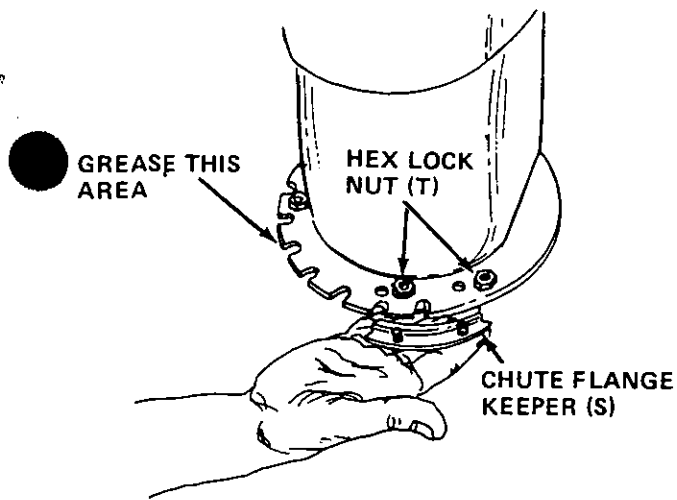

FIGURE 8
15. Grease the flange at chute opening of blower housing using all purpose automotive grease. See figure 8.
16. Place the chute assembly over the chute opening using flange keepers (S) and hex center lock nuts (T). A 7/16" boxed or open end wrench is required. See figure 8.